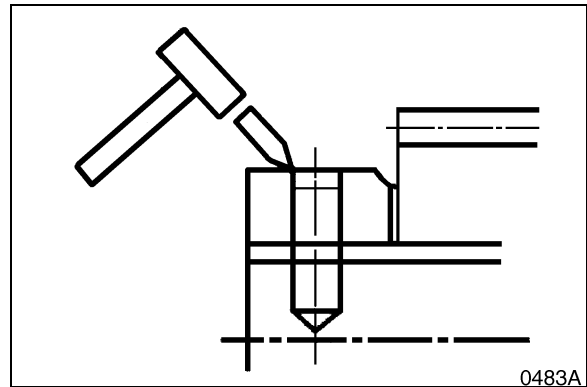

Figure 14
- D. As shown in Figure 14, use a punch to stake spring pins (15, Figure 13) (inserted in the previous step) into place.